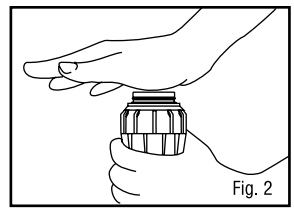

Fig. 2
- Using the palm of your hand, rotate the nozzle turret counterclockwise to the left stop to complete any interrupted rotation cycle (Fig. 2)